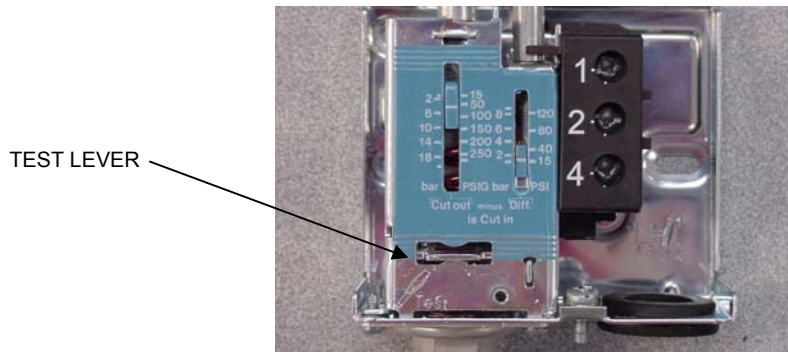

Figure 7
3. The test lever can be operated with a screwdriver, see figure 7, push down to start the pump, up to stop.